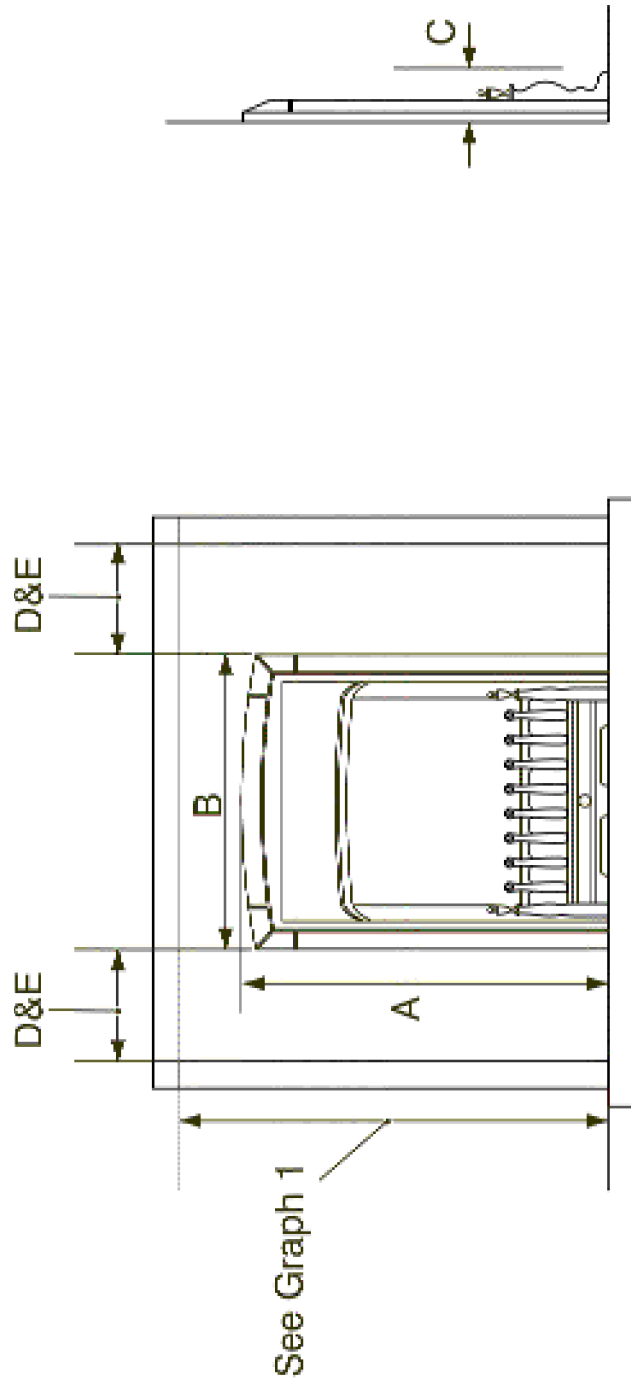

Figure 5. Appliance dimensions and clearances (Fascia may differ from that shown)
4.20 The minimum allowable distance from the outside of the appliance fascia to a corner wall having combustible material or any other combustible surface which projects beyond the front of the appliance is shown in figure 5.
Figure 5 continued. Appliance dimensions and clearances